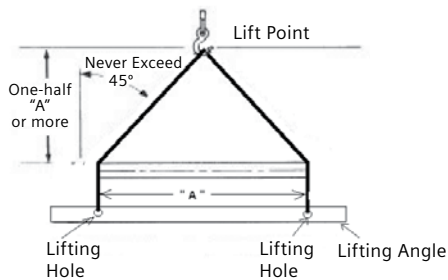

Figure 2. Proper method for lifting a motor control center
3. Do not allow the angle between the lifting cables and vertical to exceed 45° as shown in Fig. 2.